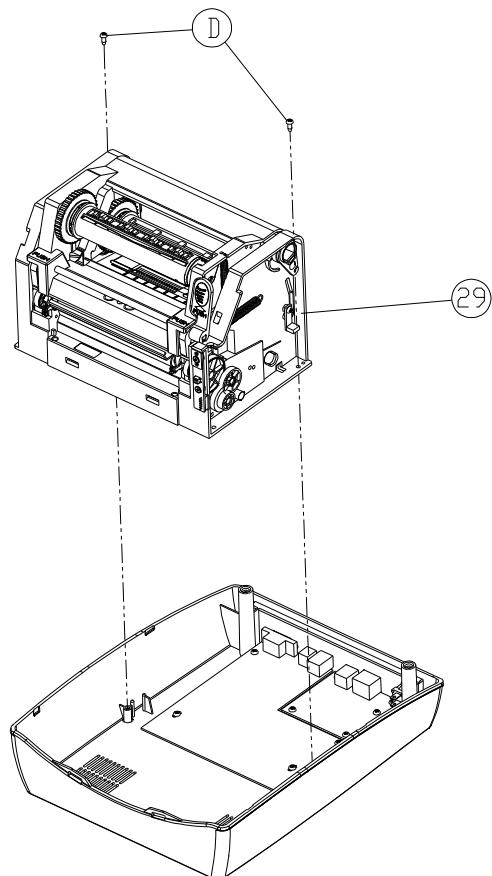

Figure 10.3.2
5. Remove the 2 screws (D).
6. Unplug all the connectors that are connected to the main board. Then remove the “Printer Chassis” (29) as shown in Fig. 10.3.2.